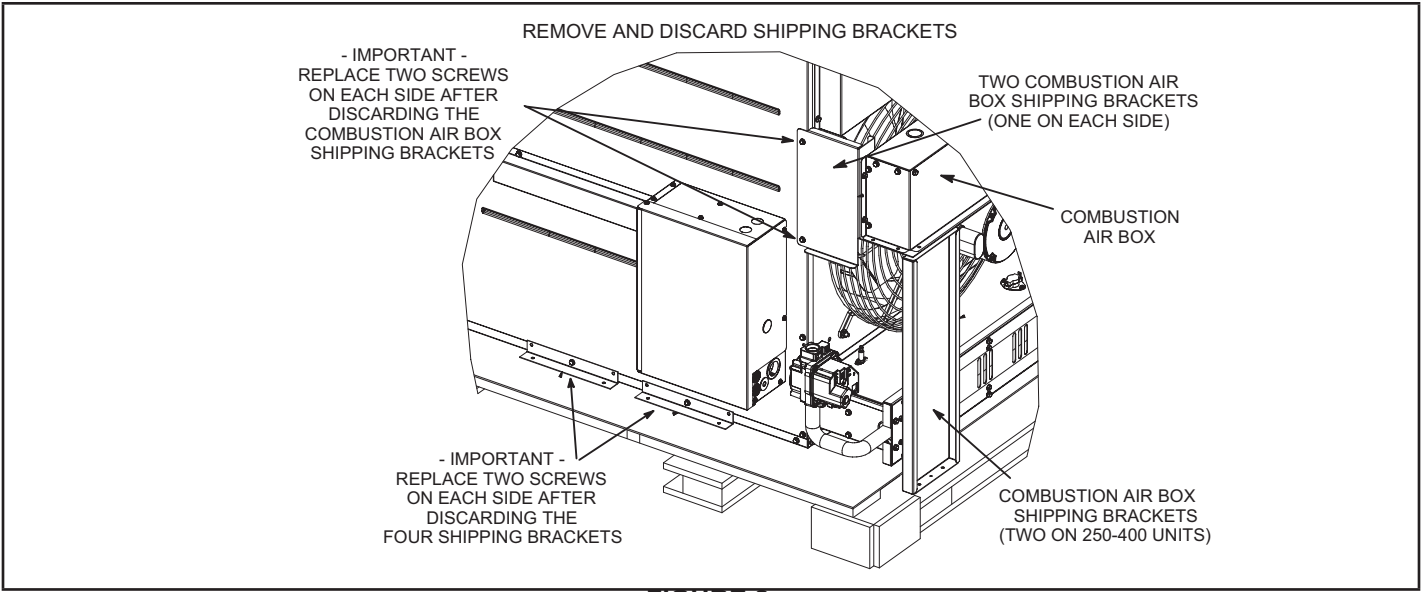

FIGURE 2
- 8 - Remove and discard the shipping brackets. Replace four screws on each side as shown in figure 2.